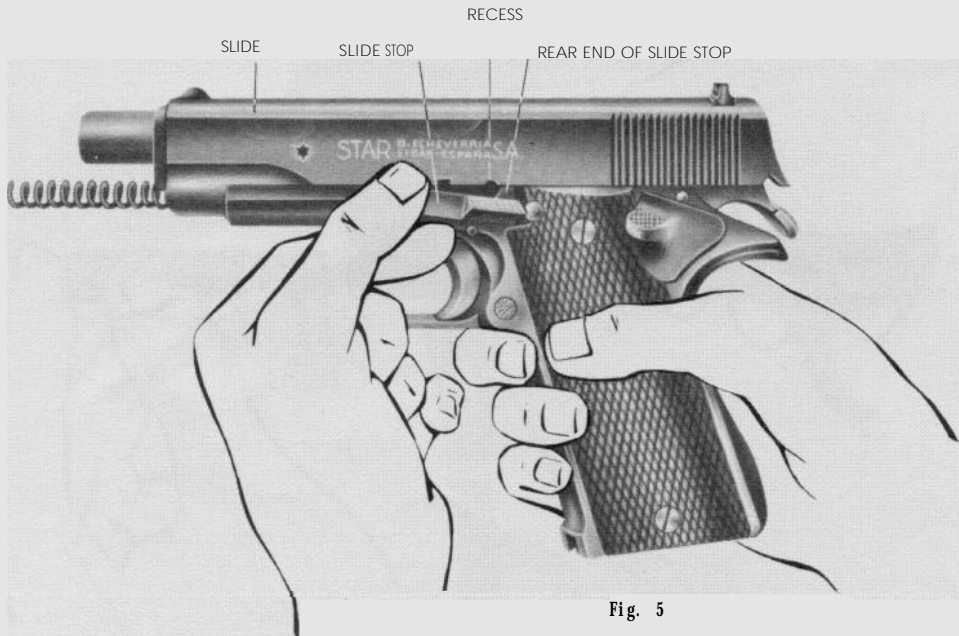

Fig. 5
3. Cock the hammer. Pull the slide back until the rear edge of the smaller recess in the lower edge of the slide is even with the rear end of the slide stop. Press the index finger of the right hand against the end of the slide stop which protudes from the opposite side of the frame above the trigger guard and pull out the slide stop (See fig. 5).